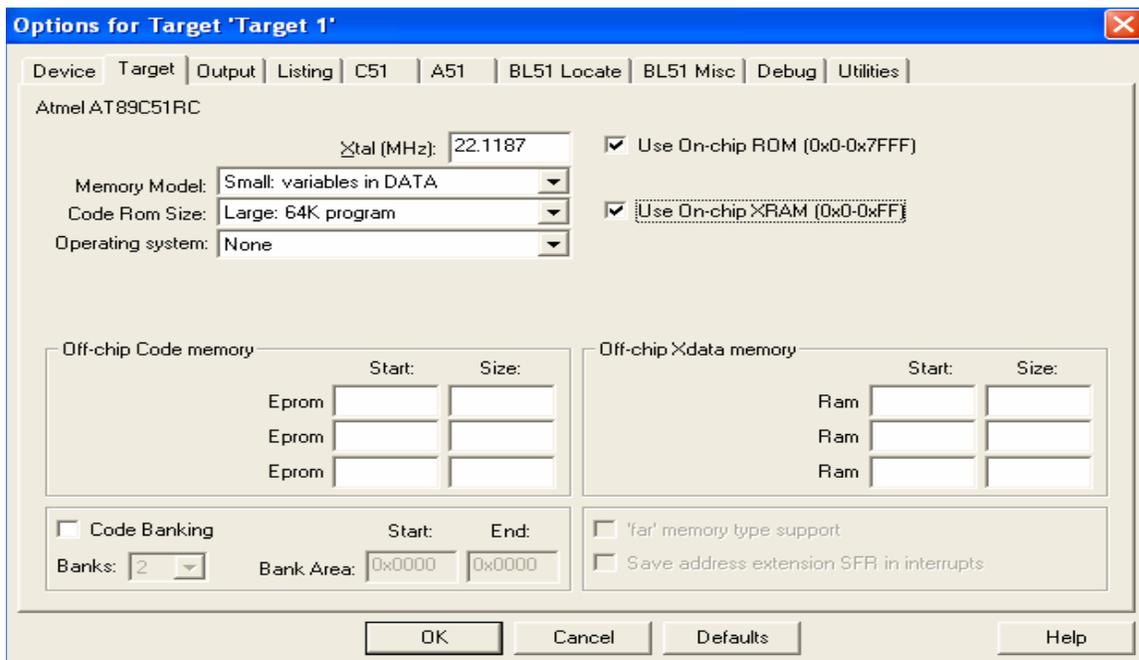

Figure 3: The Target caption
5. Then the target will be created. Now right click on the Target caption. And select “add options to target”. A window as shown in the Figure 3 will appear. In the Target caption window, check mark both “Use On chip ROM” and Use “On Chip XRAM” as shown.